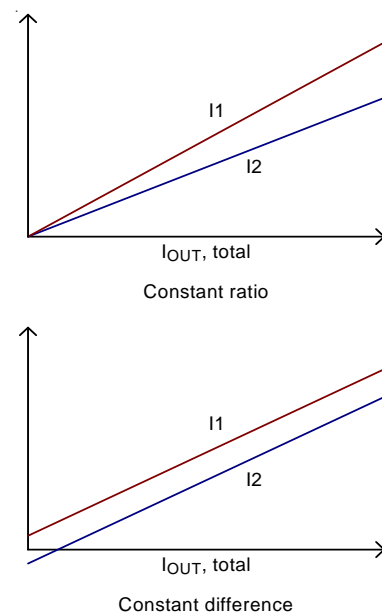

Figure 10. Category of Phase Current Imbalance
If phase current is not balanced due to asymmetric PCB layout of power stage, external resistors can be adjusted to correct current imbalance. Figure10 shows two types of current imbalance, constant ratio type and constant difference type. If the initial current distribution is constant ratio type, according to Equation (3), reducing  $R_{CSN}[1]$  can reduce  $I_L[1]$  and improve current balance. If the initial current distribution is the constant difference type, according to Equation (2), increasing  $R_{CSP}[1]$  can reduce  $I_L[1]$  and improve current balance.